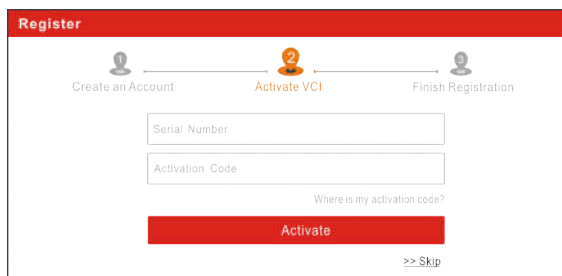

Fig. 4-4
**b) Activate VCI Connector:** In Fig. 4-4, input the Serial Number and Activation Code, which can be found in the password envelope.